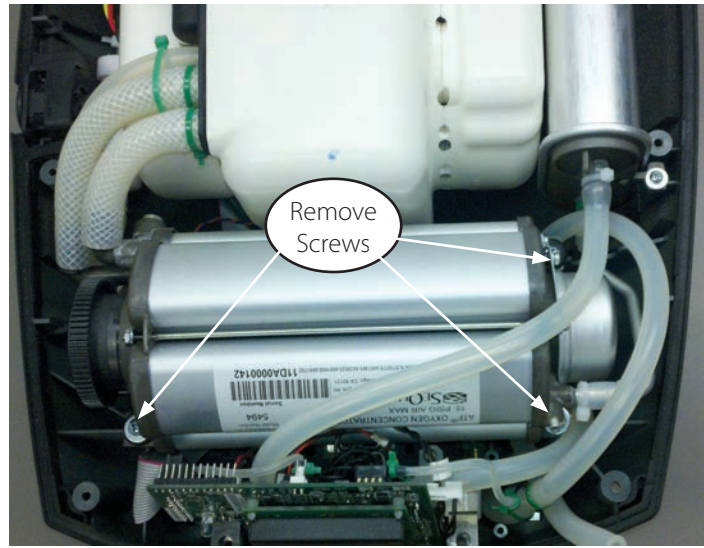

Figure 33: Remove ATF Module from Eclipse 5 Case.
- Mount the ATF with 3 M4x16 screws and 3 washers as shown on Figure 33 on previous page. Apply Loctite® 425 Thread Locker on the threaded tips of the screws before installing. Tighten screws but DO NOT squash the grommets (2 in.lbs. maximum).